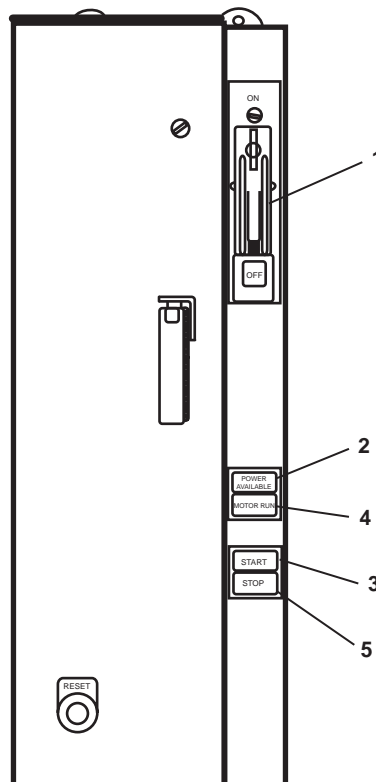

Figure 10. Fuel Oil Transfer Pump Motor Controller
- a. At the fuel oil transfer pump motor controller(s) 1 and/or 2 (figure 10):
- (1) Set the ON-OFF switch(es) (figure 10, item 1) to ON.
- (2) Verify that the POWER AVAILABLE indicator(s) (figure 10, item 2) energize(s).
- (3) Start the pump(s) by pressing the START pushbutton(s) (figure 10, item 3).
- (4) Verify that the MOTOR RUN indicator(s) (figure 10, item 4) energize(s).
- (1) Press the STOP pushbutton(s) (figure 10, item 5).
- (2) Verify that the MOTOR RUN indicator(s) (figure 10, item 4) go(es) out.
- (3) Set the ON-OFF switch(es) (figure 10, item 1) to OFF.
- (4) Verify that the POWER AVAILABLE indicator(s) (figure 10, item 2) go(es) out.
- a. At the fuel oil transfer pump motor controllers 1 and 2 (figure 10):
- (1) Set the ON-OFF switches (figure 10, item 1) to ON.
- (2) Verify that the POWER AVAILABLE indicators (figure 10, item 2) energize.
- (3) Start the pumps by pressing the START pushbuttons (figure 10, item 3).
- (4) Verify that the MOTOR RUN indicators (figure 10, item 4) energize.
- a. Press on the STOP pushbuttons (figure 10, item 5).
- b. Verify that the MOTOR RUN indicators (figure 10, item 4) go out.
- c. Set the ON-OFF switches (figure 10, item 1) to the OFF position.
- d. Verify that the POWER AVAILABLE indicators (figure 10, item 2) go out.